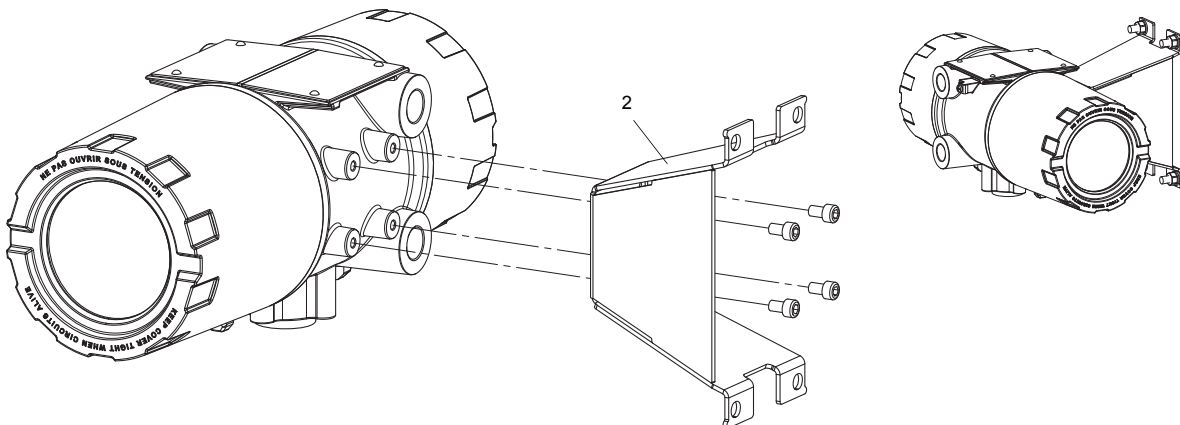

Fig. 6.2: Wall installation
- Fix the housing to the instrument mounting plate (2) (see Fig. 6.2).